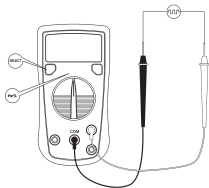

figure 7
G. Frequency and Duty Cycle Measurement (see figure 7)